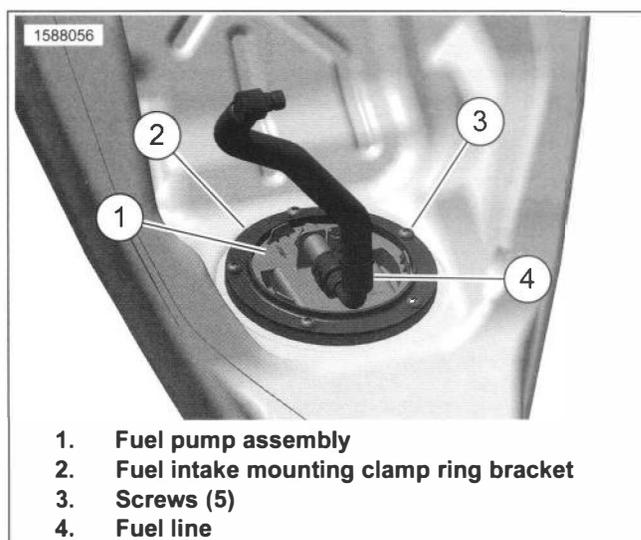

Figure 6-22. Fuel Pump Install
1. See Figure 6-22. Install fuel pump.
- a. Hold pump assembly (1) pointing rearward and insert into tank.
- b. Install fuel pump clamp ring (2).
- c. Install **new** screws (3). Tighten using a star pattern.